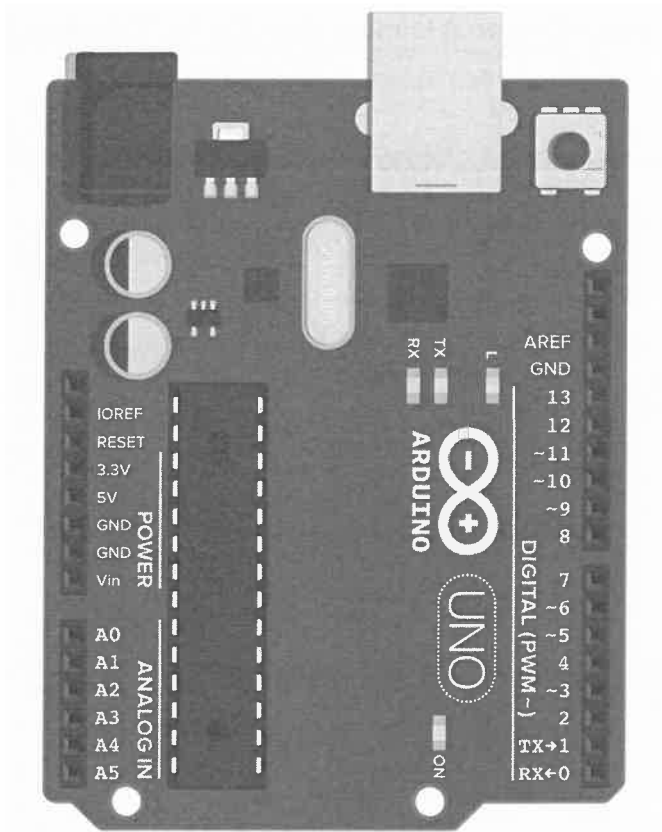

Figure 23: Microcontroller for connecting components.
- c) If Michelle Fardy were to use the microcontroller shown in Figure 23, which pin is a good option to connect the following to: